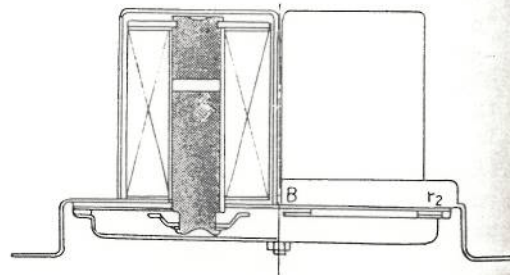

Fig. 10-94
- (4) Glow plug relay (See Fig. 10-94)